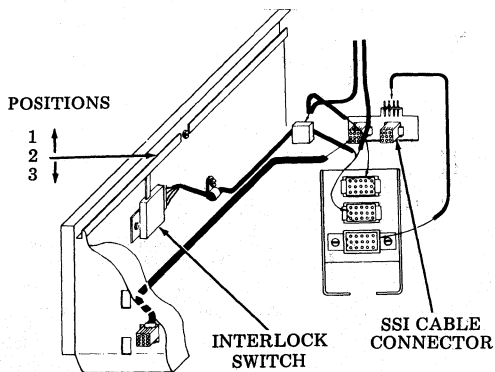

Fig. 3
2.03 The interlock switch has a three-position activator (Fig. 3). Check for continuity at connector terminals 6 to 7 when the activator is lifted to its 1 position (maintenance) and held down (audible click) in its 3 position. No continuity should be observed in its 2 position (Fig. 7).